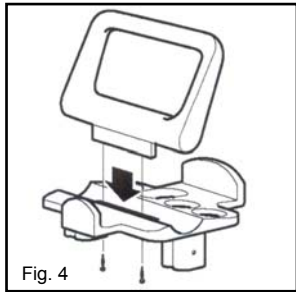

Fig. 4
4. Insert the handle into the handle bracket and secure with the two (2) screws provided. (Fig. 4)